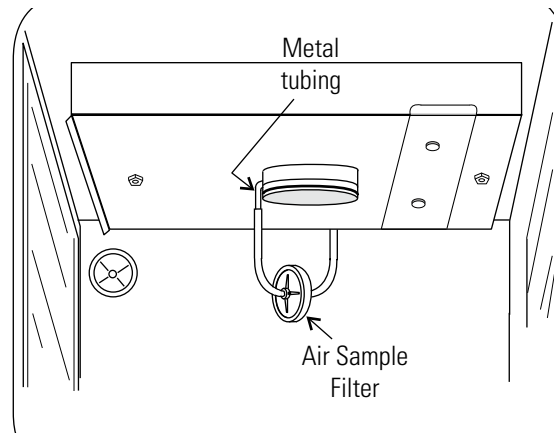

Figure 5-2. Connect to Metal Tubing
2. Connect the other end of the filter to the metal tubing on the HEPA filter adapter (Figure 5-2).